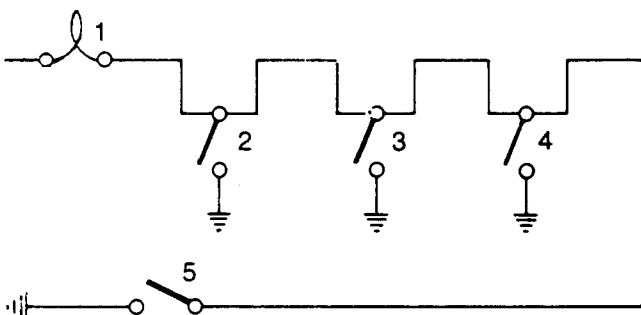

Fig K1.1
4. Refer to Fig K1.1. An amber warning light (1) marked BRAKE is provided on the dash to the left of the instrument panel. The light is in a series circuit with the following warning indicator switches to provide a visual indication of brake hydraulic fluid leakage or servo vacuum loss.